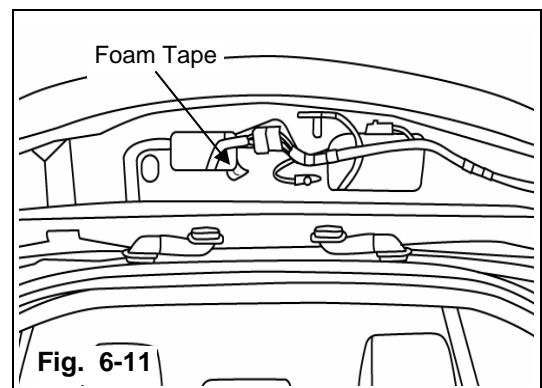

Fig. 6-11
- a) Attach one (1) piece of foam tape to the corner of the rear gate body in order to prevent damage to video cable during routing. (Fig. 6-11)